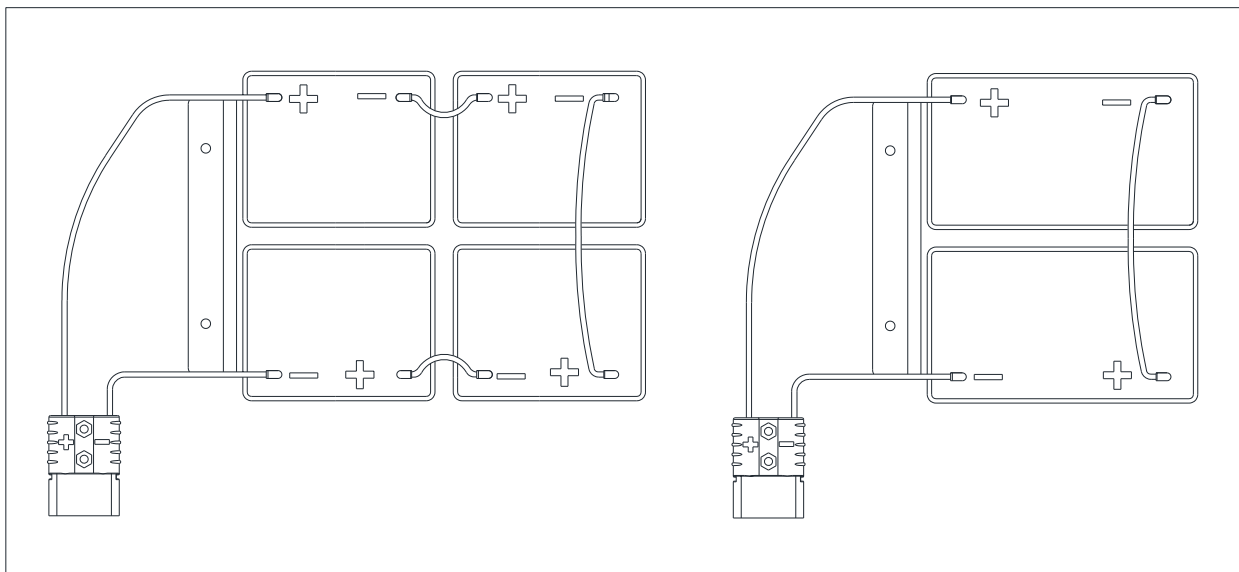

Figure 3
The machine requires two 12V batteries or four 6V batteries, connecting according to Figure3.
5. Route and install the battery cable as shown in (Figure 3), then carefully tighten the nut on each battery terminal. Connect batteries to connector on machine.